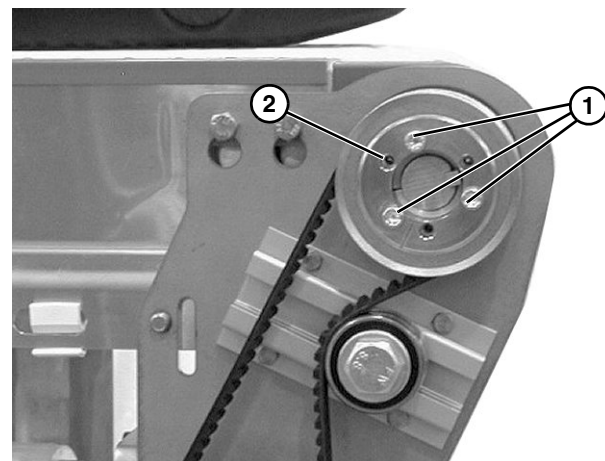

Figure 17
- Remove taper-lock screws (Figure 17, item 1). Insert one of taper lock screws in remaining hole (Figure 17, item 2). Tighten screw until pulley is loose. Remove pulley and taper hub assembly.